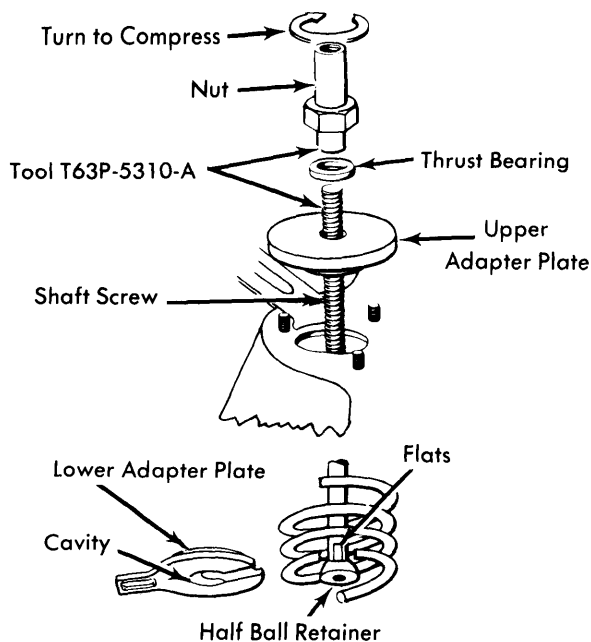

Fig. 3 Installation of Coil Spring Compressor Tool
**Removal** — 1) Remove shock absorber and upper mounting bracket as an assembly. Position wooden block as shown in Fig. 2. Raise vehicle on a hoist, install safety stands, then remove wheel, brake caliper and rotor. Install coil spring compressor tool as shown in Fig. 3.